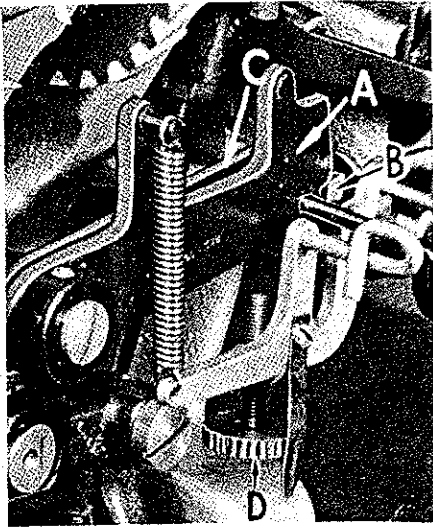
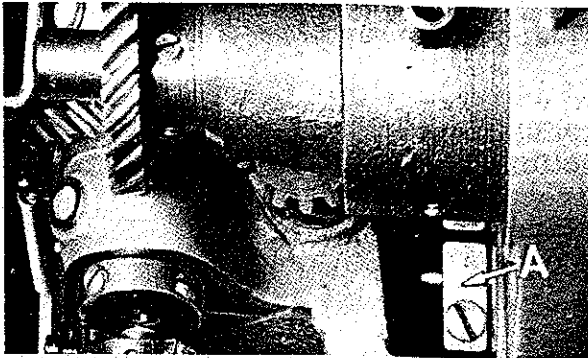
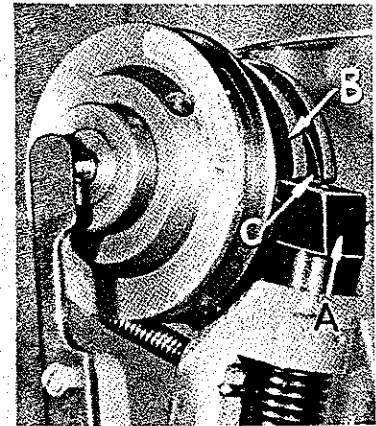

Fig. 15
Fig. 17
Fig. 16
Check the pull-off lever plunger (B, Fig. 15) to be sure it operates freely. Looking down into the head of the machine under the front main shaft bearing, loosen the clamp screw in driving crank (A, Fig. 17), and manually raise the pull-off lever (A, Fig. 15) and plunger operating lever (C).
The pull-off lever (A, Fig. 15) is set correctly when it snaps off the plunger (B) as the stop motion plunger (A, Fig. 16) comes to an abrupt stop against the stop motion disc (B) when operating machine by hand.
Then, carefully lower the pull-off lever (A) until it just drops off the point of the plunger (B). Then, carefully tighten clamp screw in driving crank (A, Fig. 17).
If too much thread tail shows on completed tack, turn pull-off lever control screw (D, Fig. 15) clockwise to reduce length of tail. If starting thread is too short, causing loss of stitches, turn the control screw counterclockwise until slight amount of tail shows.